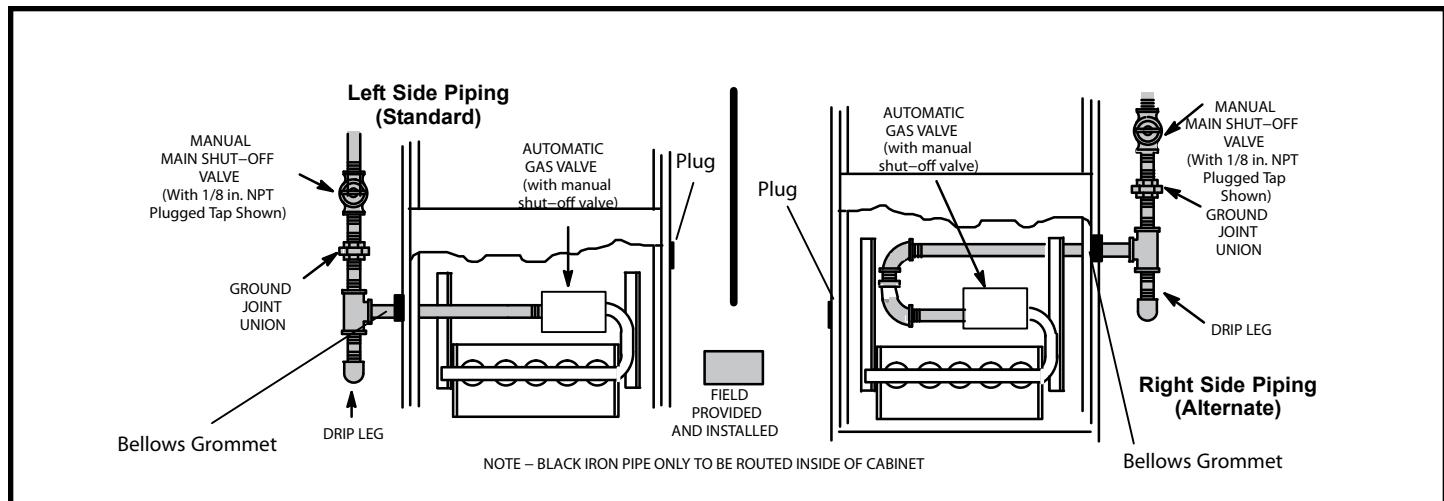

Figure 45
1. Gas piping may be routed into the unit through either the left or right hand side. Supply piping enters into the gas valve from the side of the valve as shown in Figure 45. Move bellows grommet to side of the cabinet which the gas line enters. Ensure opposite gas line entrance is plugged with supplied plug.
3. Gas piping must not run in or through air ducts, clothes chutes, chimneys or gas vents, dumb waiters or elevator shafts. Center gas line through piping hole. Gas line should not touch side of unit. See Figures 45.